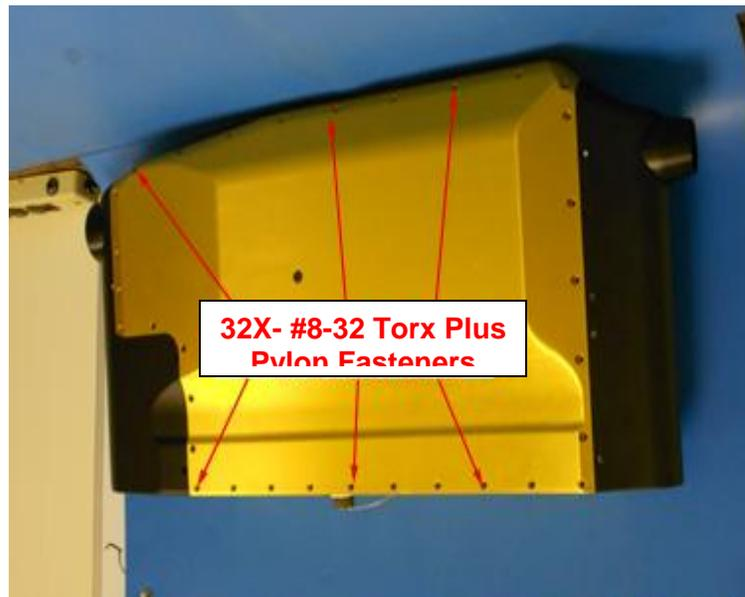

Figure 3.3.2. 8 Torx Plus fasteners connect the pylon cover to the body.
2. 32 black-oxide #8-32 X 1/2" Torx plus fasteners are used to fasten the pylon cover to the pylon body (**Figure 3.3.2**). It is important to not use fasteners longer than 1/2". Using longer fasteners could break through they pylon, causing it to lose all pressurization. The center fastener is #1/4-28 X 1" and requires a 3/16 Allen wrench.